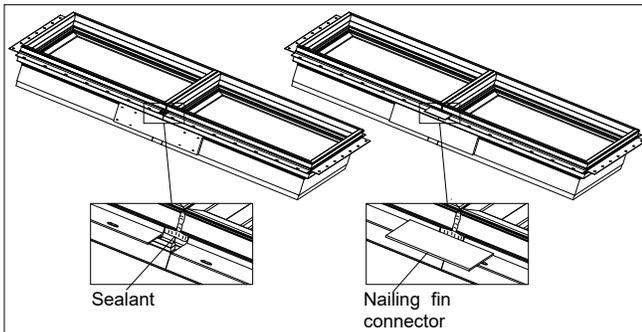

Figure 5
- Apply silicone sealant at the mullion from the frame exterior edge to the drip cap/nauling fin kerf and across the kerf over the mulling pin as shown in figure 5. Apply nauling fin connectors at the head jamb and sill or jambs by removing the paper backing from the connector and pressing into place. See figure 5. If applicable jamb extension can now be applied. Follow installation instructions for installing unit into rough or masonry opening. Interior mull trim should only be applied after unit is completely installed and interior trim is applied.